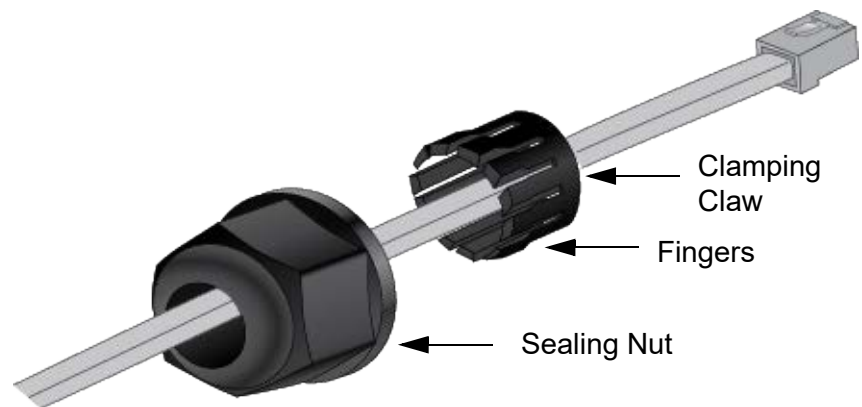

Figure 13. Sliding the Ethernet LAN Cable Through the Sealing Nut and Clamping Claw
4. Slide the Ethernet LAN cable through the sealing nut and clamping claw. See Figure 13. The fingers on the clamping claw need to be pointing towards the sealing nut.